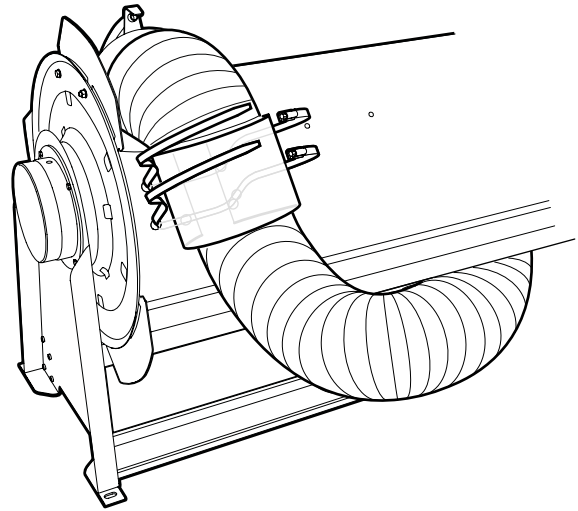

Fig. 11
- 7. Secure the hose using a rubber cloth and hose clamps according to Fig. 11.